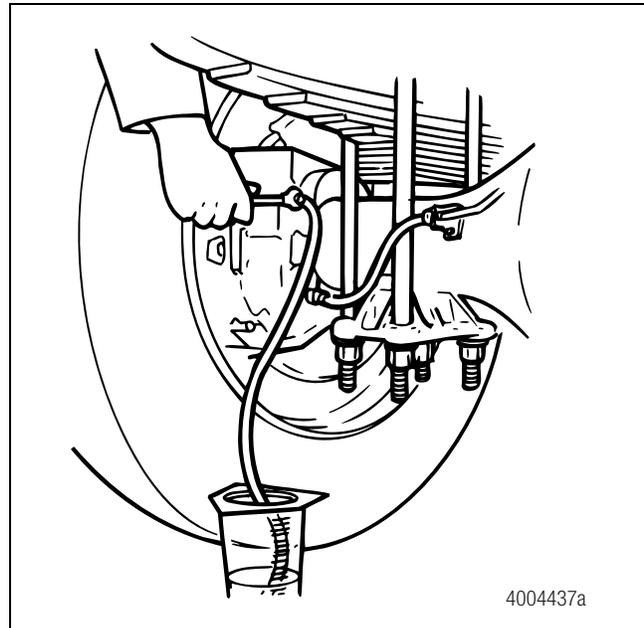

Figure 4.59
- Use a wrench to open the bleeder fitting screw. Figure 4.59.